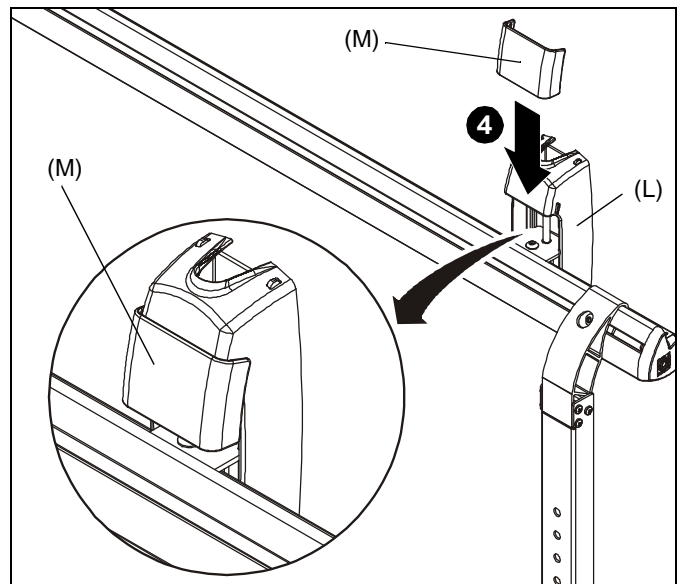

Figure 20
- Slide the sliding cover (M) down over the wall bracket cover (L) on both wall assembly brackets. (See Figure 20)